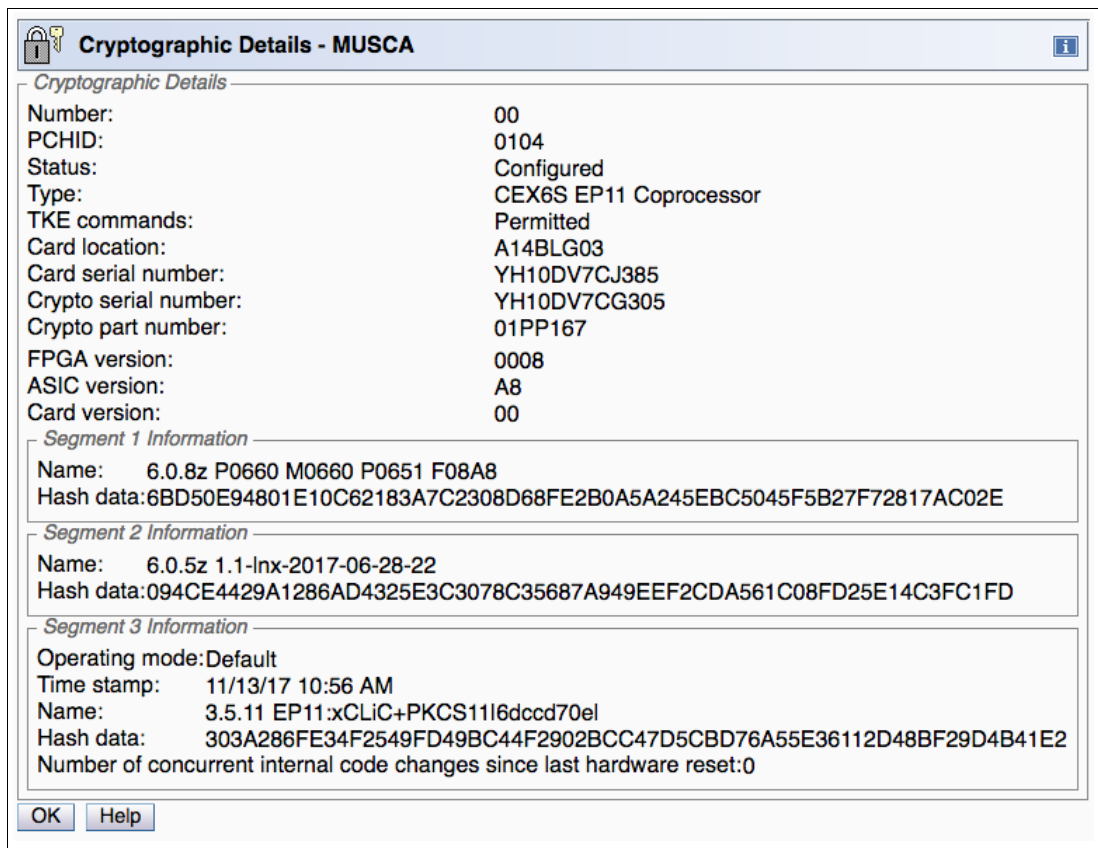

Figure 10-20 SE Cryptographic details (EP11 Coprocessor)
8. Click **View Details** to display the detailed information, as shown in Figure 10-20.